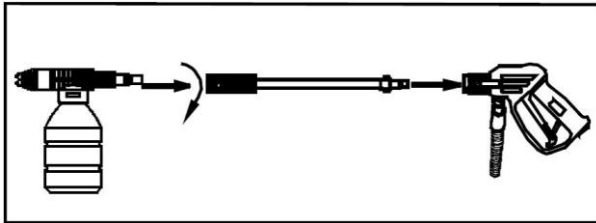

Figure 8 – Attache applicator to gun
4. Attach detergent applicator to gun. (See Figure 8).